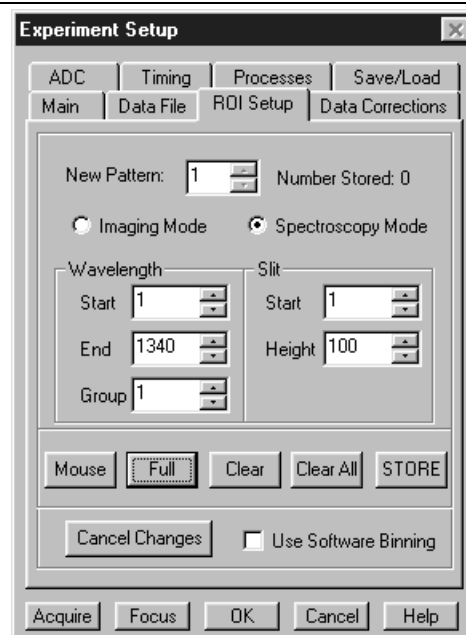

Figure 36. ROI dialog box
6. On the **ROI** tab page select **Spectroscopy Mode** as shown in Figure 36. The **Use Full Chip** selection on the **Main** tab page overrides any ROI settings that may be present.